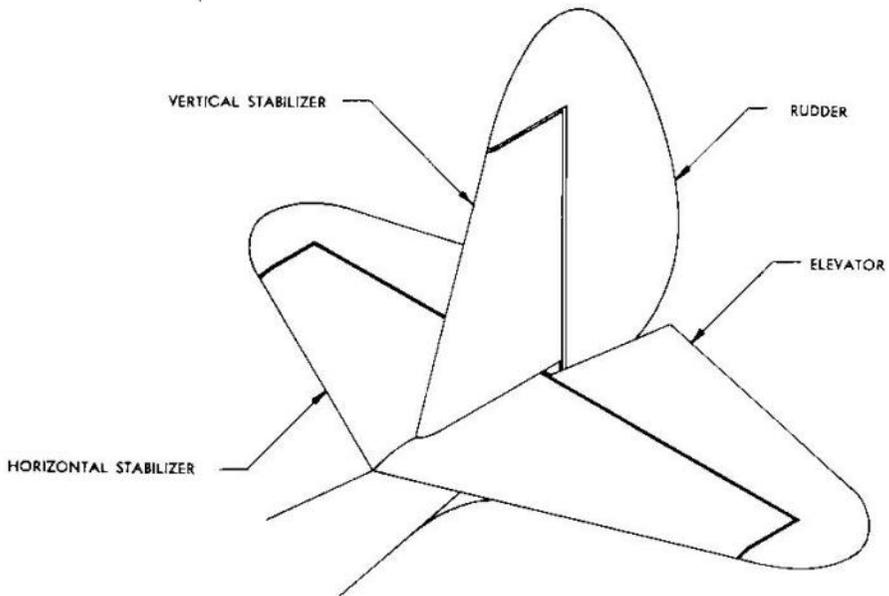

Figure 14 - Empennage
4. EMPENNAGE. (See figure 14.)